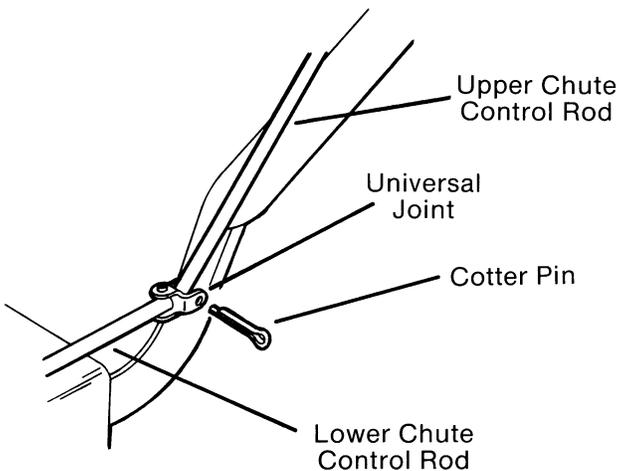

FIG. 7
- I. Slide upper chute control rod through the hole in the handle panel marked "SNOW DISCHARGE". Secure chute control rod to the universal joint on the lower chute control rod with a cotter pin. (Fig. 7)